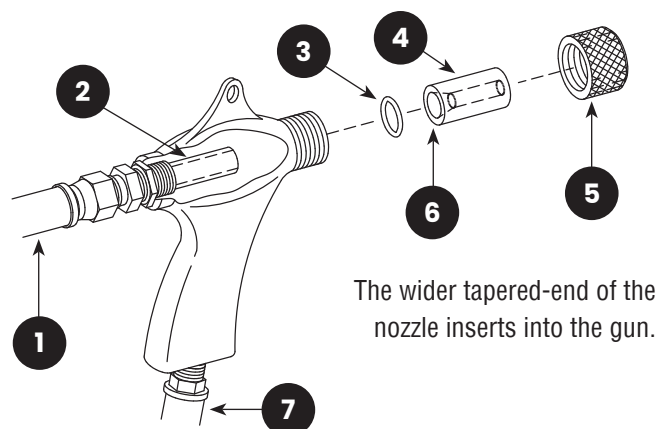

FIGURE 5: (1) Air Hose; (2) Air Jet Cover; (3) O-Ring; (4) Nozzle; (5) Nozzle Holding Nut; (6) Wide End; (7) Media Hose
7.1 | BNP® Gun Assembly – Figure 5